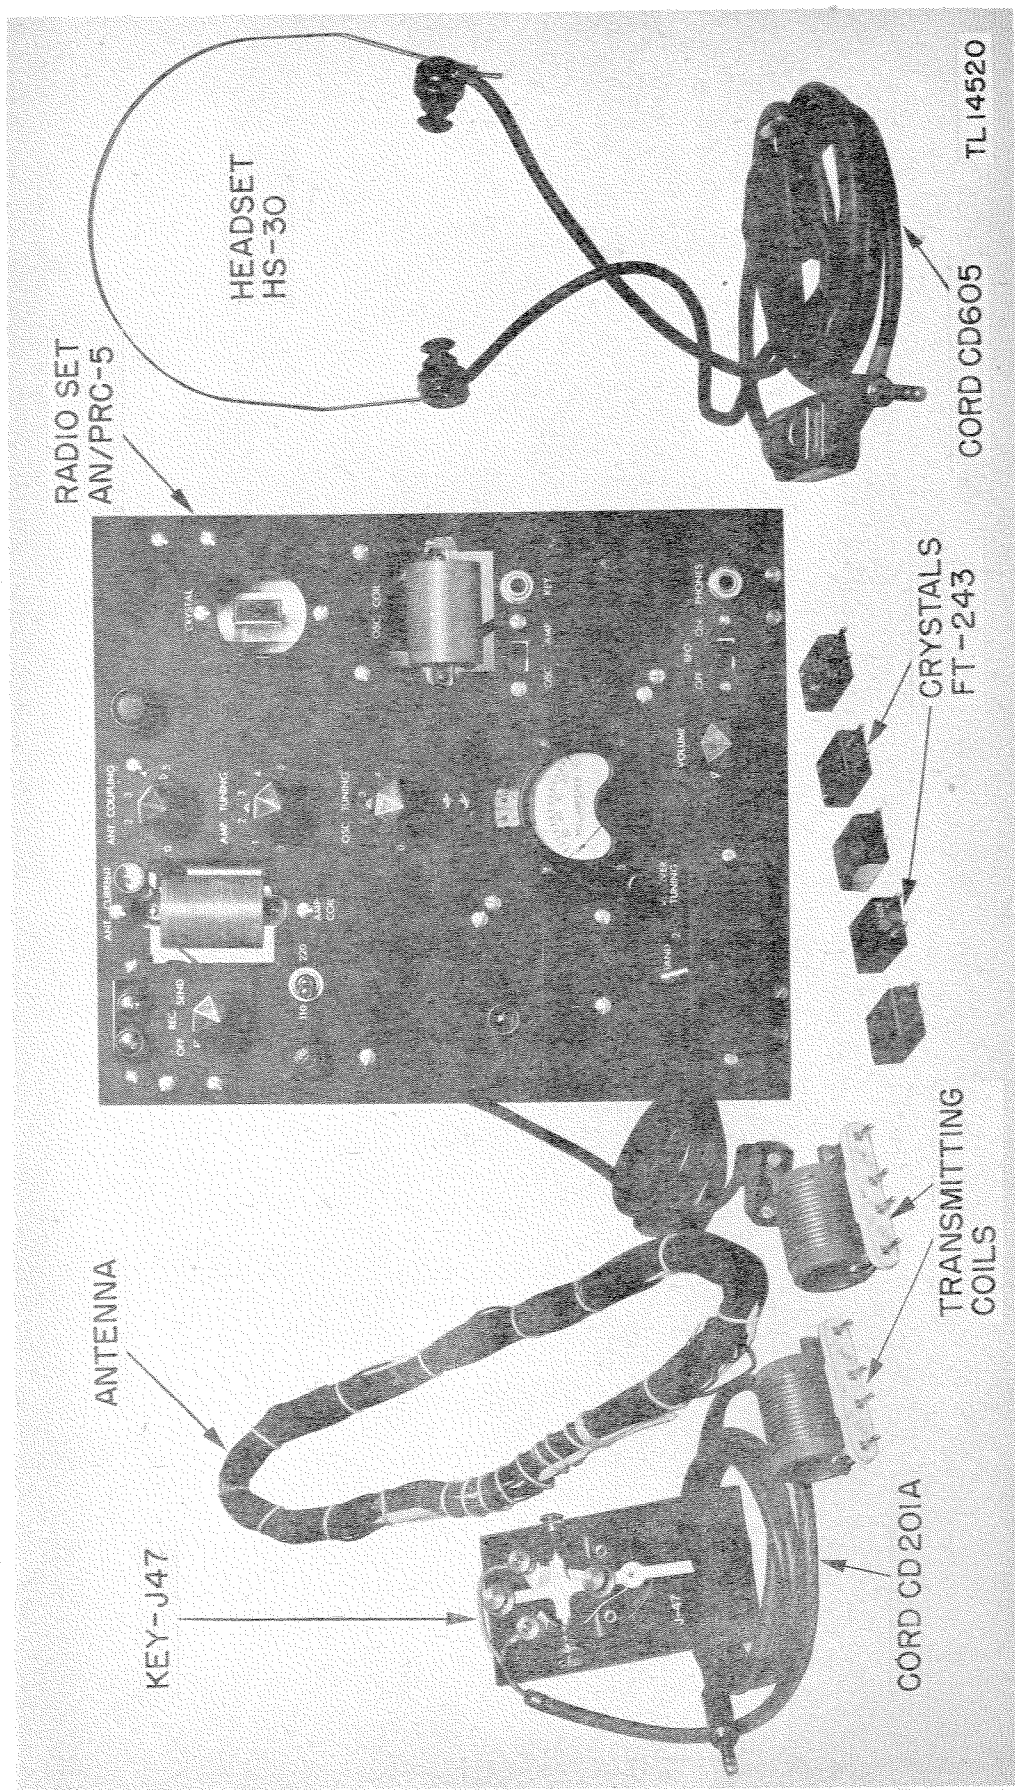

Figure 1. Radio Set AN/PRC-5, front panel and operating
- (1) 4,500 to 8,000 kilocycles.
- (2) 8,000 to 16,000 kilocycles.
5. SOURCE OF POWER (fig. 1). The equipment is designed for operation from a 110- or 220-volt, 50- to 60-cycle, single-phase source. The equipment is set for operation from a source of either voltage by manipulation of the switch marked 110-220, located near the FUSE receptacle in the upper left-hand corner of the transceiver unit.
7. TRANSCEIVER (fig. 1). The transmitter and the power supply form the upper half of the transceiver unit, and the receiver forms the lower half. All of the controls for the transceiver unit are mounted on a single panel covering the face of the unit (fig. 1).